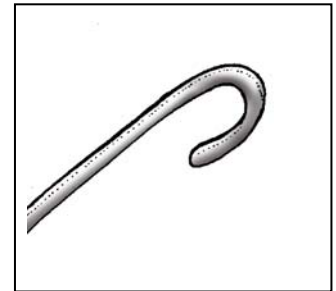

Figure 4
17. Use pliers to bend one end of the welding rod into a hook. Refer to Figure 4. This is to distinguish the cool back end of the rod from the end that may be hot and also to avoid injuring anyone nearby with the end of the wire. It is standard procedure to leave rods full-length rather than cut them down.